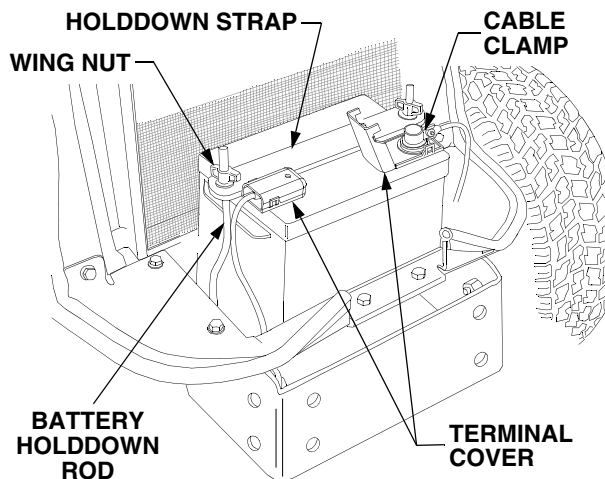

Figure 34
- Remove the two wing nuts and the battery holddown strap from the battery holddown rods. See Figure 34.
- Spread the locking clips on the sides of the terminal covers and lift the tops of the covers to expose the battery connections. See Figure 34.